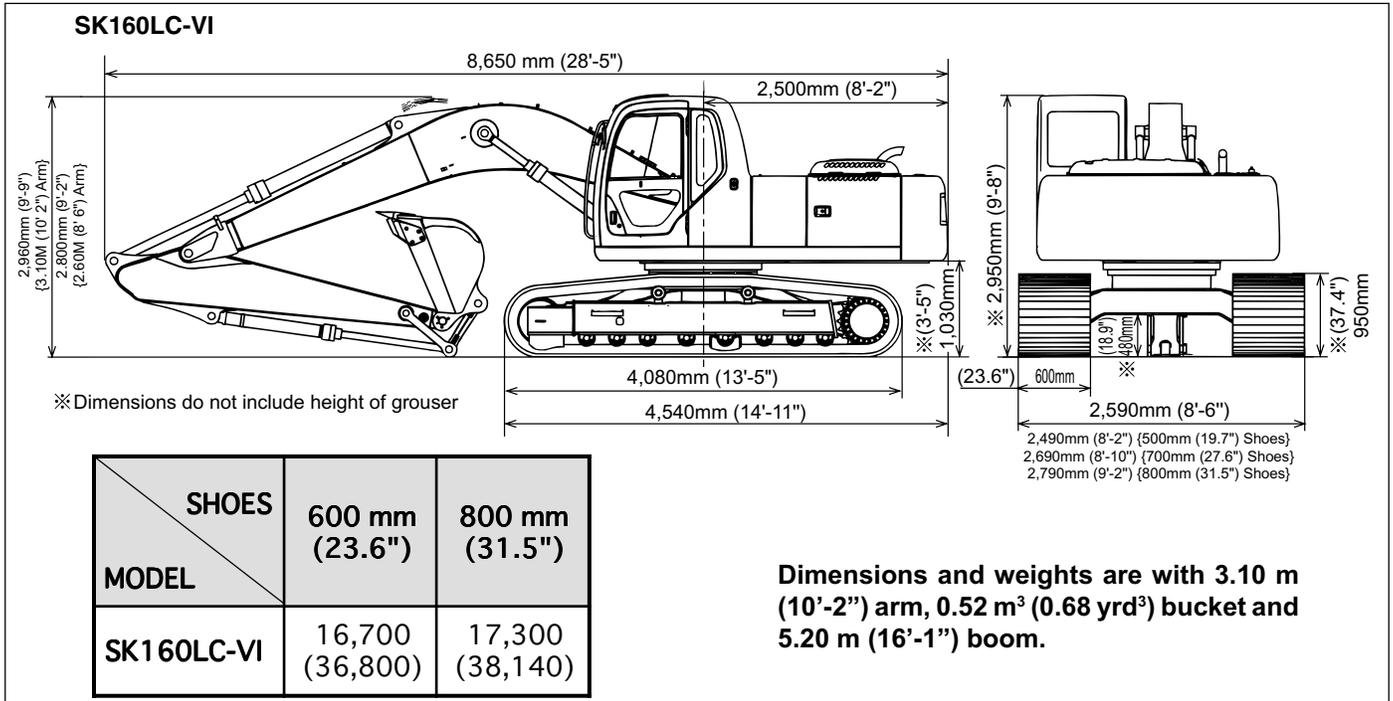

FIGURE 5.2A
- Know the total weight, length, width and height of the machine being transported. See Figures 5.2A ~5.2B.